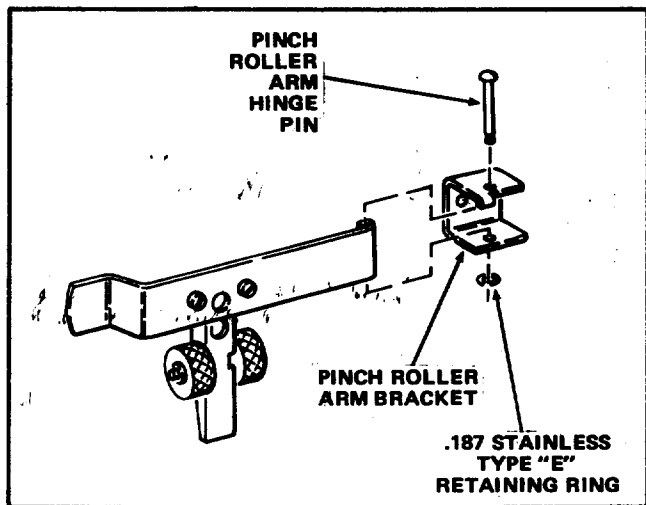

FIGURE 2
5. Remove a .187 Stainless Type "E" Retaining Ring, Pinch Roller Arm Hinge Pin and Pinch Roller Arm Bracket from the Pinch Roller Arm Assembly. See Figure 2.